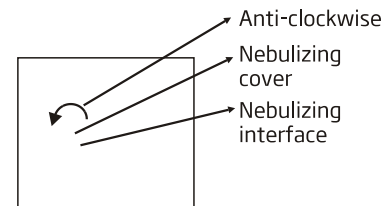

Figure 4
- › Upward pull out the nebulizing cover on the nebulizing interface. (Figure 4)